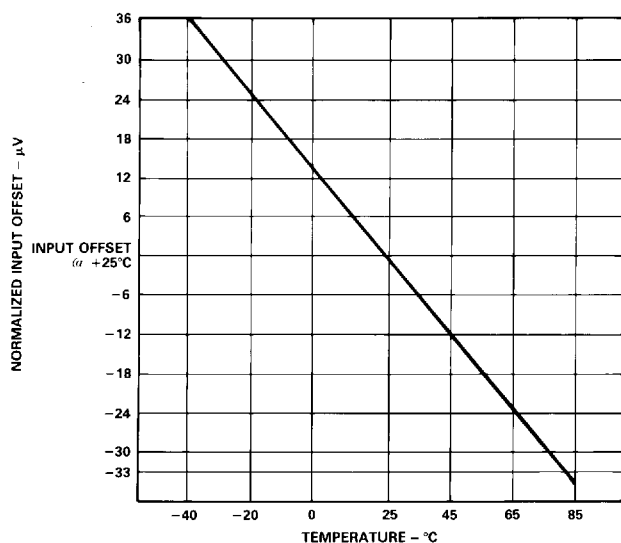

Figure 11. Normalized Input Offset Voltage ( $\mu\text{V}$ ) vs. Temperature (°C), with  $V_S = 15\text{ V pk-pk}$ , 25 kHz Square Wave
**Input Offset Voltage.** The AD208 exhibits an extremely low input offset voltage temperature coefficient over the -40°C to +85°C temperature range as indicated in Figure 11.